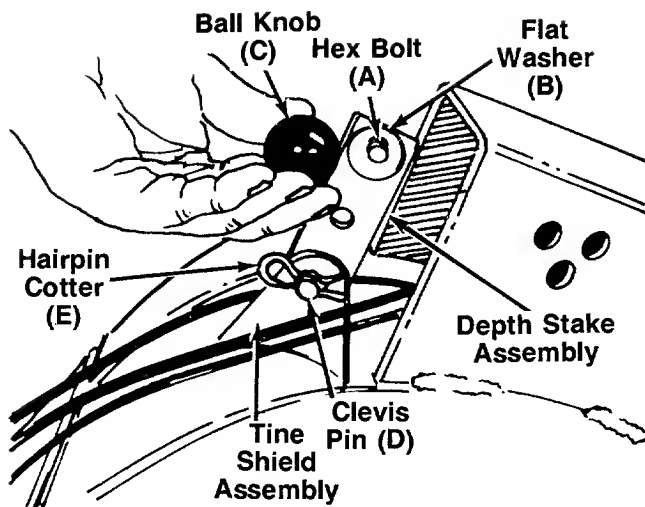

FIGURE 4.
2. Insert clevis pin (D) through the tine shield and depth stake assemblies. Secure with hairpin cotter (E). See figure 4.
3. Insert hex bolt (A) into the upper hole of the depth stake assembly. Place flat washer (B) onto the hex bolt and thread ball knob (C) onto the hex bolt. See figure 4. Tighten securely.